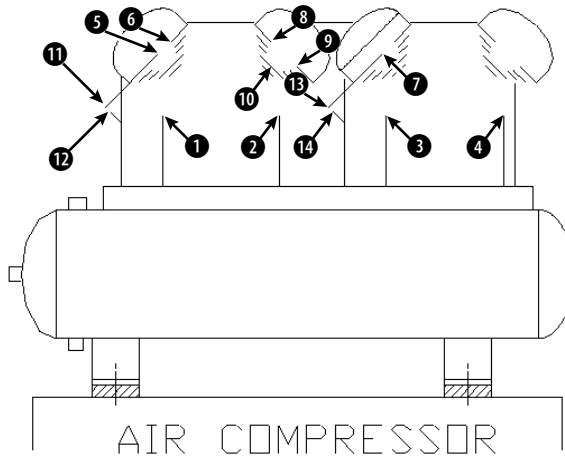

**Figure 7-1:** The air compressor without its circles.
3.  Choose Circle from the Draw toolbar. Right-click and choose 2P from the shortcut menu. At the *Specify first end point of circle's diameter:* prompt, pick the endpoint at ❶ in Figure 7-1. At the *Specify second end point of circle's diameter:* prompt, pick the endpoint at ❷.
4. Repeat the CIRCLE command by right-clicking and choosing Repeat Circle. Right-click and choose 2P from the shortcut menu. Pick the endpoints at ❸ and ❹ in Figure 7-1.
7. Repeat the CIRCLE command by right-clicking and choosing Repeat Circle. At the Specify center point for circle or [3P/2P/Ttr (tan tan radius)]: prompt, right-click and choose 3P. At the Specify first point on circle: prompt, pick the endpoint at 8 in Figure 7-1. At the Specify second point on circle: prompt, pick the endpoint at 9. At the Specify third point on circle: prompt, choose a midpoint object snap and pick the midpoint at 10.
12. Repeat Step 11, choosing the endpoint at 13 for the center of the circle and the endpoint at 14 for its radius, as shown in Figure 7-1.